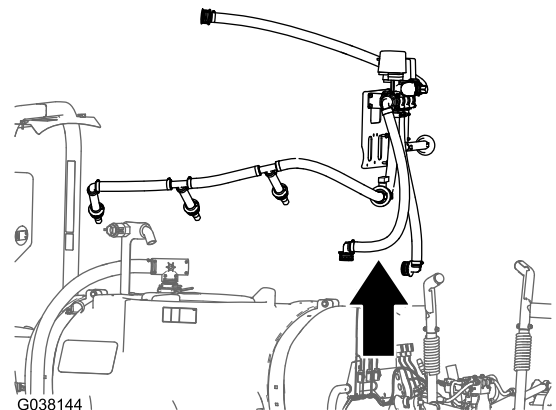

Figure 27
- Remove the bracket, valves, hoses, and agitation nozzles from the machine (Figure 27).